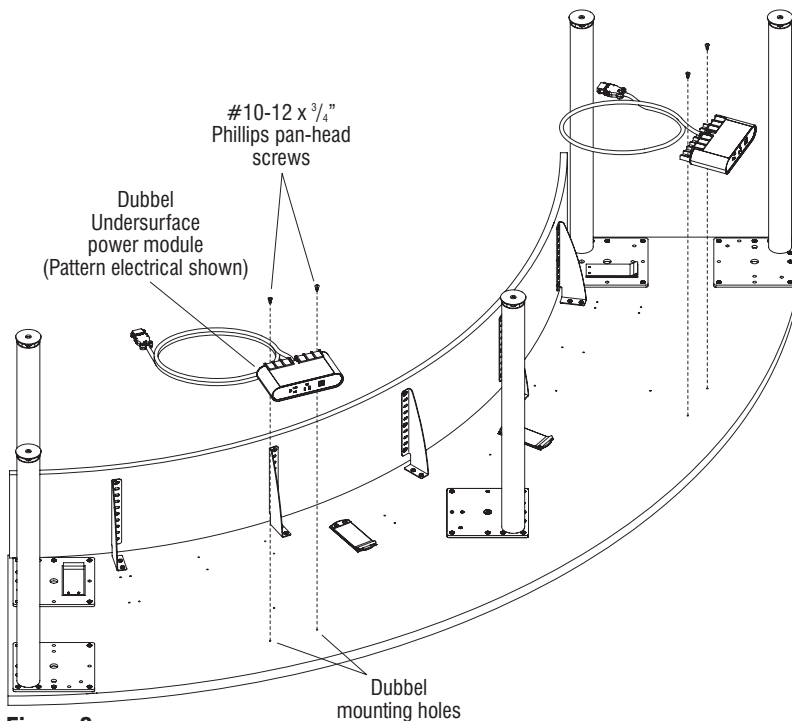

Figure 3
1. Align the mounting holes of the Dubbel Undersurface power module with one of the three sets of two Dubbel pre-drilled mounting hole locations underneath the front, user side of the tabletop as illustrated (Figure 3 and Detail H). Secure the Dubbel power module to the tabletop using two #10-12 x 3/4" Phillips pan-head screws (Figure 3 & Detail H).